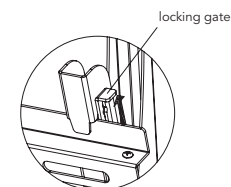

fig. 4.2
CAUTION: Some televisions are heavy, please lift and place carefully. We will not be held responsible for any accidental damage. Lift the display unit to the cross bar of the wall plate (A), and then lower the unit into place until the hooks are fully seated in the cross bar of the wall plate assembly, then lock the locking gate, to prevent the pivot arm assembly falling off the wall plate, as fig. 4.2.